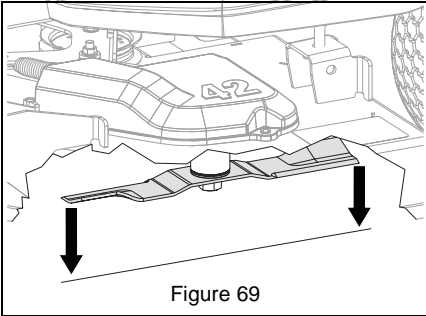

Figure 69
3. On both sides of the unit, measure the distance to the ground at the front and rear tip of the blade. See Figure 69.